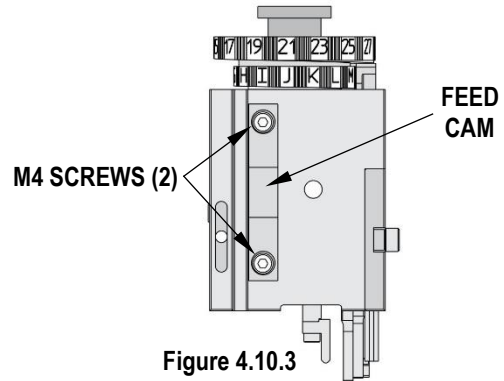

Figure 4.10.3
6. Use a 3mm hex wrench to remove the two M4 screws holding the cam to the ram. See Figure 4.10.3.